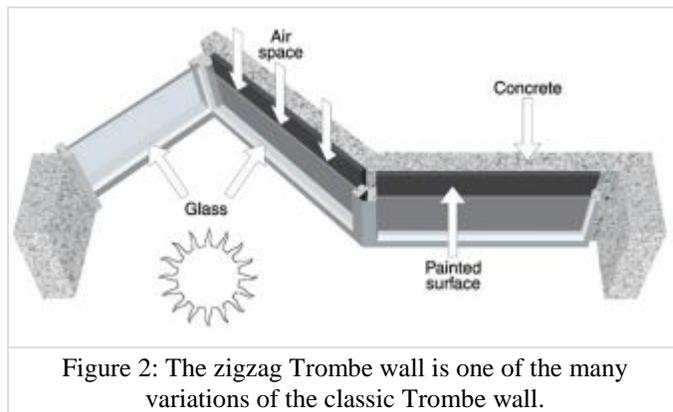

Figure 2: The zigzag Trombe wall is one of the many variations of the classic Trombe wall.
- The zigzag Trombe wall is designed to reduce excessive heat gain and glare on sunny days. The wall has three sections where two of the walls form a V-shaped wall and the third is a classic Trombe wall. The south east facing wall of the V provides immediate heat and light in the morning cold. Next to the V shape is a classic Trombe wall which stores heat for the night. This version of the Trombe wall is fairly new and further prototyping needs to be made to ensure this is a good alternative to the classic Trombe wall. This variation of the Trombe wall can be seen in Figure 2.^[9]